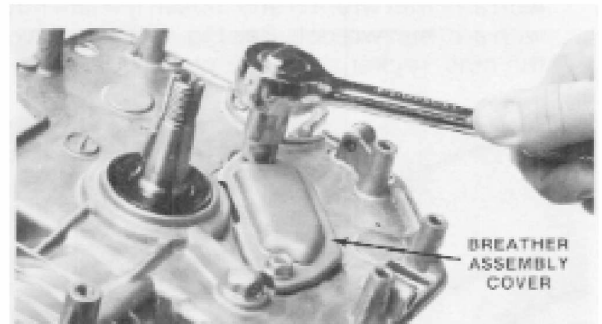

Figure 4-8
1. Remove the two screws retaining the breather assembly cover. Use a 10 mm socket or wrench. See Fig. 4-8.